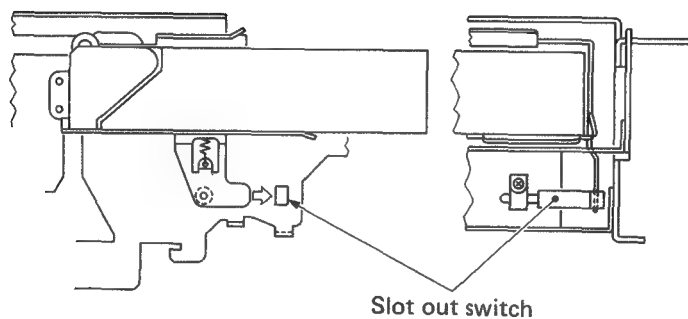

Fig. 3-1-9
- (4) The cassette holder horizontally moves and reaches close to the stop position, the slot-out switch is turned on by the lower end of the cassette holder. (Fig. 3-1-9)